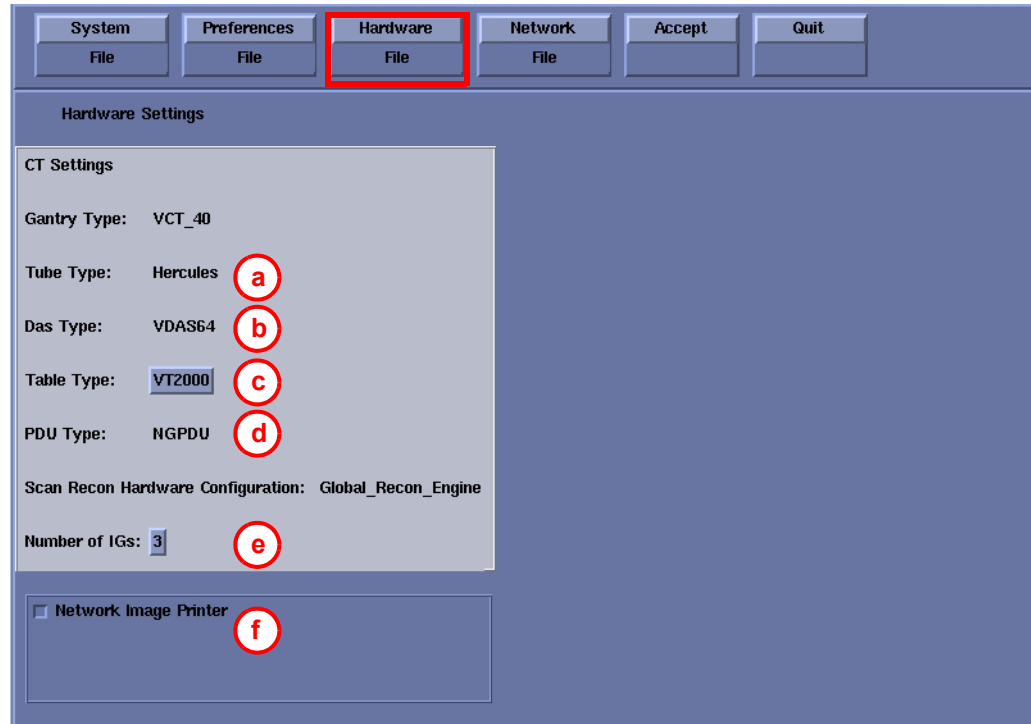

Figure 5-17 Hardware Settings Screen (Example only - Actual screen may vary)
- 8.) Click the HARDWARE button to display the Hardware Settings Screen (Figure 5-17).